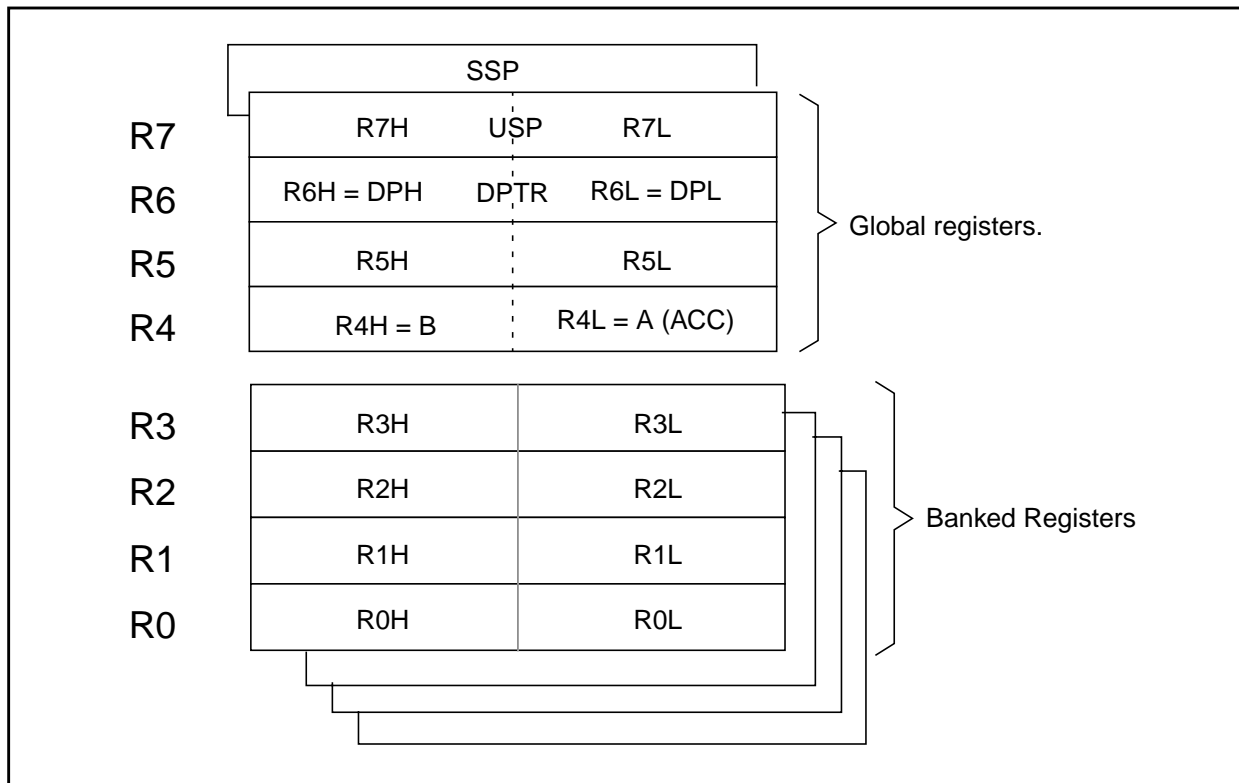

Figure 9.1. XA Register File
Specific XA registers are reserved for use as 80C51 registers when translating code. The A register, the B register, and the data pointer all map to a pre-determined place in the XA register file (see figure 9.1). The accumulator (A) is the only one of these that required special hardware support in the XA, because the accumulator can be read or tested directly by certain instructions and in order to generate the parity flag.